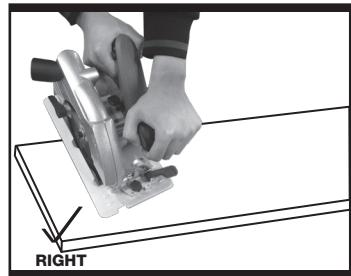
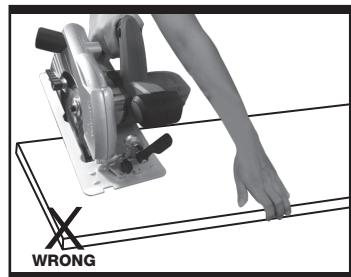

Fig. 1-1
Fig. 1-2
Always hold your saw firmly with both hands when operating. The right and wrong ways to hold the machine are shown in Fig. 1-1 and Fig. 1-2.
Adjusting the angle of the base plate (3) enables bevel cutting (See Fig. 4). The base plate (3) must always be held firmly against the material being cut to reduce saw vibration, blade jumping or blade breakage (See Fig. 1-1)